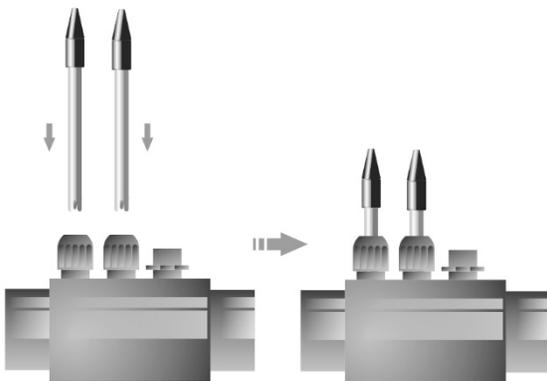

Fig. 2a
1. Insert the pH and ORP sensors supplied with the equipment in the corresponding sockets of the probe housing. (Fig. 2a)